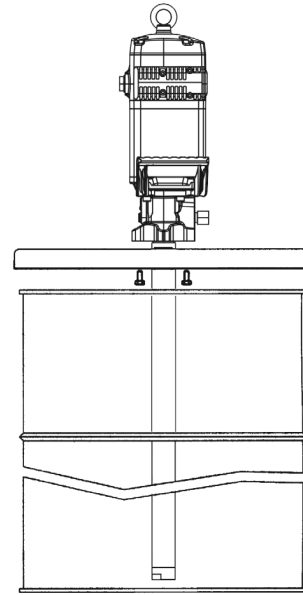

Fig. 2
A. MOUNTING WITH REINFORCED COVER. INSERT THE PUMP THROUGH THE COVER AND FASTEN IT WITH THE ENCLOSED SCREWS. INSERT THE PUMP THROUGH THE BUNG OPENING AND FASTEN THE COVER ONTO THE DRUM FIRMLY (SEE FIGURE 2).